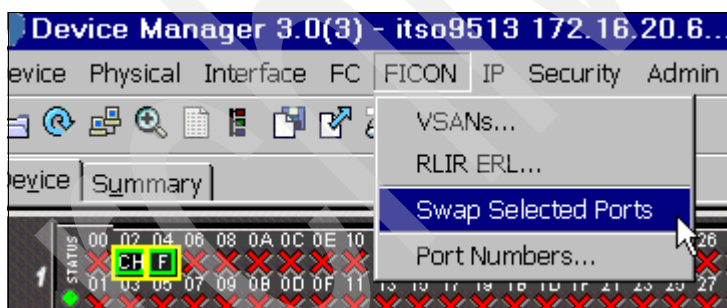

Figure 82 Swapping selected ports
1. Click fc1/3 (02), hold down the CTRL key and click fc1/5(04).
2. Select **FICON** → **Swap Selected Ports** (Figure 82).